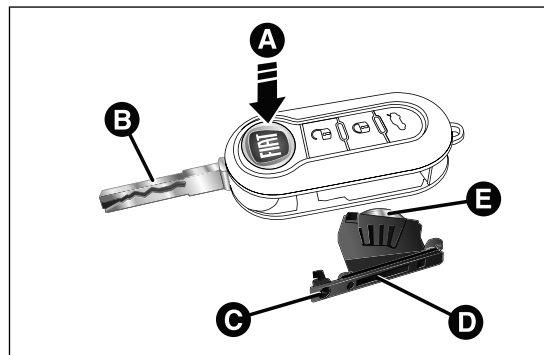

fig. 11
- ☐ press button A fig. 11 and open the metal insert B;